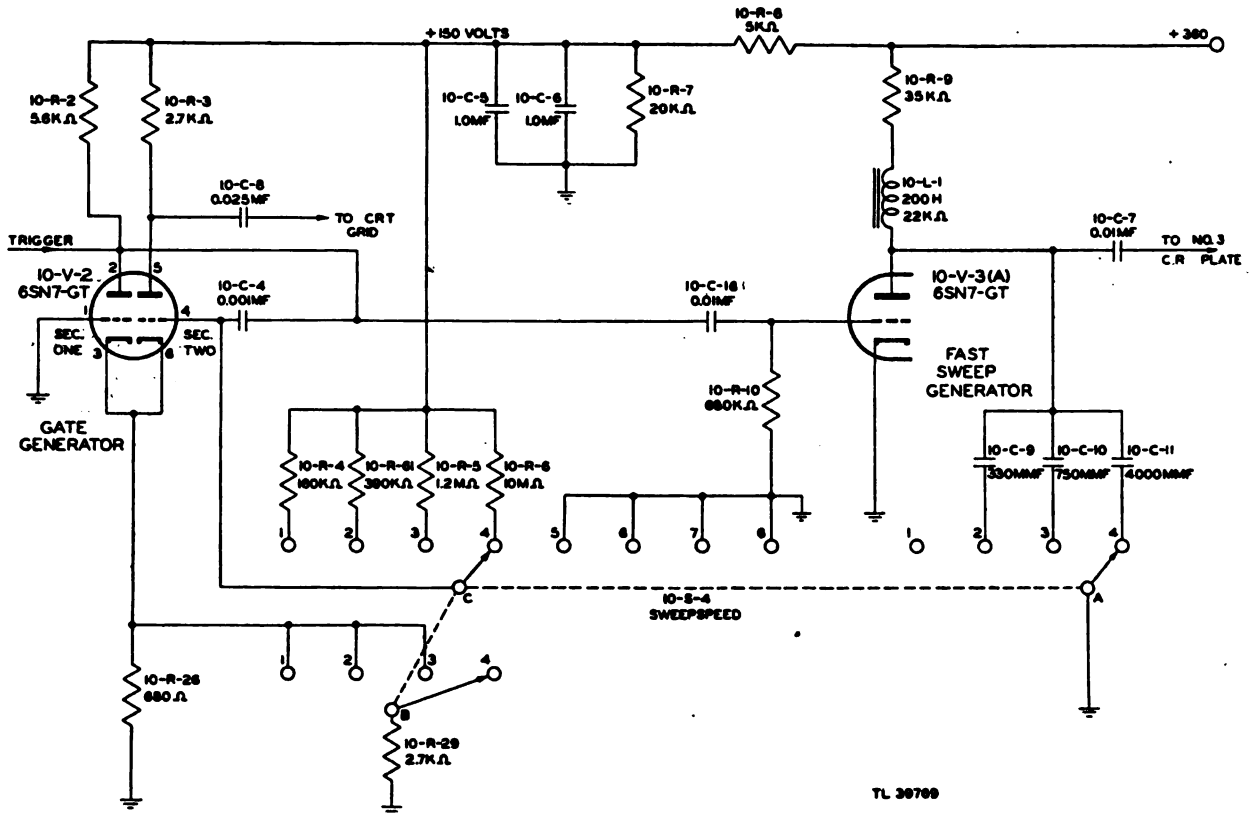

Figure 138. Gate generator and fast sweep generator, simplified schematic diagram.
(4) *Gate generator* (fig. 138). (a) The 6SN7 gate tube (10-V-2) is a cathode-coupled multivibrator requiring a negative trigger pulse at the beginning of each cycle of operation. Section one (pins 1, 2, and 3) is normally held at cut-off due to the positive potential on the common cathode circuit created by current flow in section two. A large plate current flows in section two (pins 3, 4, and 5) since the grid is returned to a positive potential of 150 volts through any one of four resistors; 160,000-ohm (10-R-4), 1.2-megohm (10-R-5), 10 megohm (10-R-6), or 390,000-ohm (10-R-61). The plate current must be at least 16 ma, which together with a small grid current will create a voltage drop of 9 volts across the parallel combination of 680-ohm (10-R-26) and
(5) *Fast sweep generator* (fig. 138). (a) Fast sweep generator 10-V-3(A) is a 6SN7 tube normally operating at a low value of grid bias. The plate current through the 200-henry choke (10-L-1) and the 35,000-ohm resistor (10-R-9) is high, creating a low voltage at the plate of the